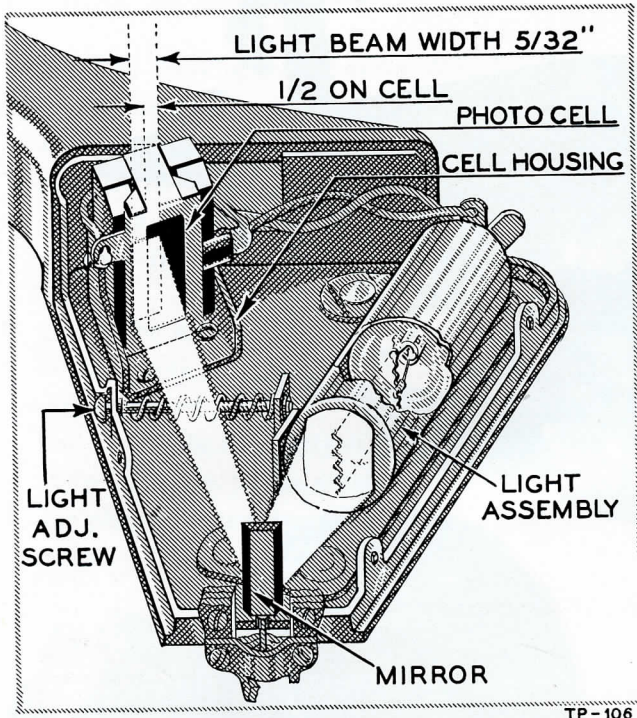

FIGURE 37. PICK-UP HEAD ASSEMBLY ADJUSTMENTS
2. If the exciter lamp is burned out, turn the light adjusting screw on the pick-up head, figure 37, counter-clockwise, until the lamp socket is in a position to be removed. Remove the lamp socket from the lens barrel, being careful not to break the fibre ends of the socket.
6. Turn the light-beam adjusting screw clockwise until one half the beam is on the side of the cell nearest the spindle. See figure 37. Replace the plastic cover.
- b. Be sure light beam is correctly focused on the photo cell, as shown in figure 37. Measure the exciter lamp voltage and carefully note the reading.
1. EXCITER LAMP, figure 37. Refer to page 22, steps 2-7.
3. PHOTO CELL ELEMENT, figure 37. Refer to page 23, step 9.